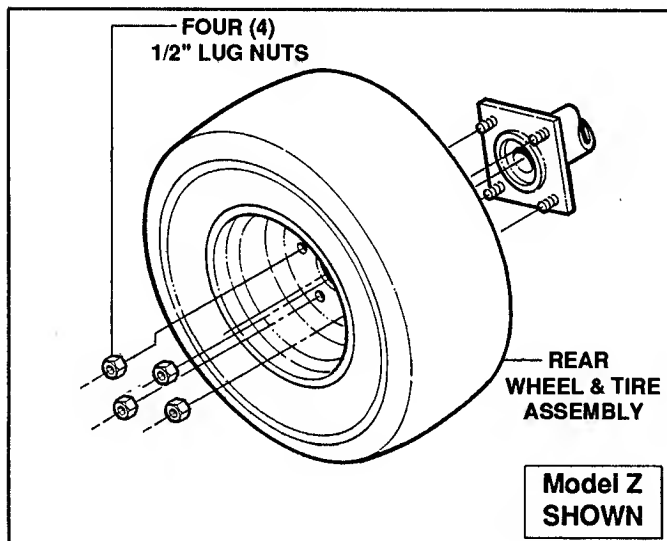

FIGURE 5.4
- B. To remove wheel and tire assembly only, loosen then remove the four 1/2" lug nuts. See Figure 5.4.